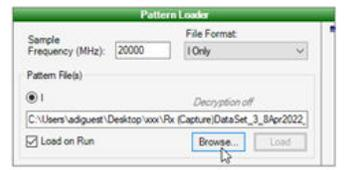

Figure 69. Loading the Saved Data in Pattern Loader in the VisualAnalog Canvas
- ▶ Select the file previously saved in the Pattern Loader in the VisualAnalog canvas (see Figure 69).